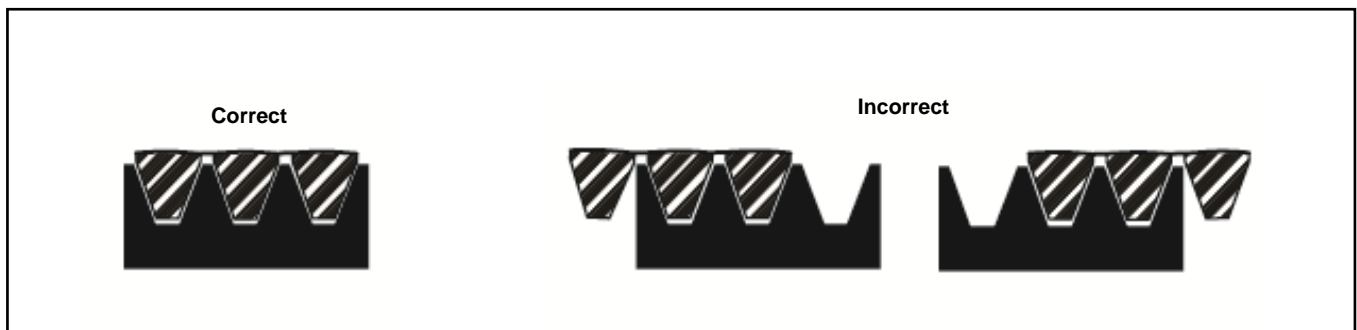

Figure 32 Drive Belt Alignment
3. Place the new drive belt on the pulleys. Make sure that the belt is properly aligned with the grooves on each pulley. See Figure 32.